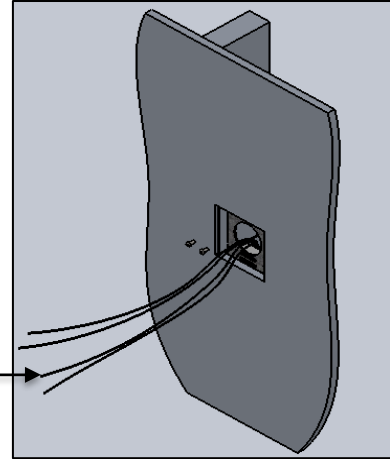

FIG. 16 DRIVER PLATE RE-ASSEMBLED
11. Reattach DRIVER PLATE with the screws provided as shown in FIG. 16.